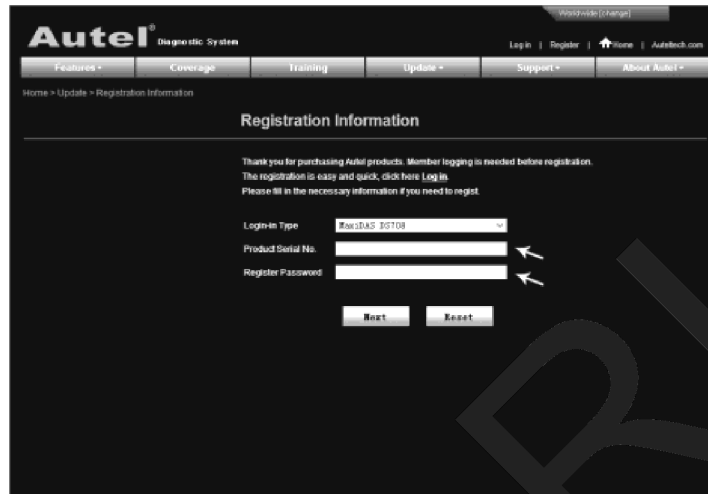

Figure 8.1
4. Put in the Product Serial No. and Register Password, and click on **Next**. (Figure 8.1)